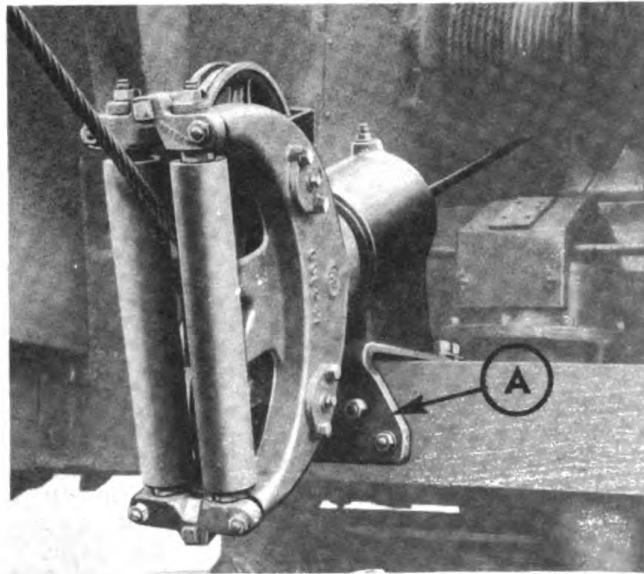

FIGURE 78
If a crane or a dragline is to be converted to a shovel, remove boom as directed under "Removing Crane Boom." In addition to the boom on a dragline, the fairlead must be removed by taking out bolts (A) shown in Figure 78, Page 99. Replace bolts in fairlead and store. Remove the right and left hand drum laggings from the main drum shaft and store. Bolt the tapered lagging (A), Figure 71, Page 95 at the left hand of the drum shaft. Bolt the double sprocket lagging at the right hand of the drum shaft. The shovel drum shaft assembly complete with tapered and sprocket lagging is shown in Figure 72, Page 95. Put the crowd chain around the left hand sprocket of the double sprocket lagging; fasten the ends of the crowd chain together with chain pin; insert cotter in chain pin and open. Do not try to adjust crowd chain until the boom is raised to an angle of approximately 40 degrees. To attach the reversing or racking-in chain which operates from the right hand sprocket of the double sprocket lagging on the main drum shaft to the single sprocket on the boom hoist shaft, remove the patch plate attached by four bolts to the curved section of the cab bulkhead. Put the chain around the sprocket on the boom hoist shaft; pass it through the hole in the cab bulkhead to and around the right hand sprocket of the double sprocket lagging on the main drum shaft; fasten the ends with a chain pin; insert cotter and open. Reeve the
Pull shovel attachment should be placed on cribbing as illustrated on Page 97. If crane or shovel is to be converted to pull shovel, remove crane or shovel attachments and lagging as described on pages (98) and (104). If dragline is to be converted to a pull shovel, remove only the dragline fairlead by taking out six bolts (A) as shown in Figure 78, Page 99. Pull shovel operation requires the same drum lagging as a dragline - large diameter lagging on the left hand drum and small diameter lagging on the right hand drum. If a shovel is to be converted to a pull shovel, standard dragline laggings must replace the shovel laggings removed. If a lifting crane is to be converted to a pull shovel, keep the large diameter lagging on the left hand drum but replace the right hand lagging with the small dragline lagging.